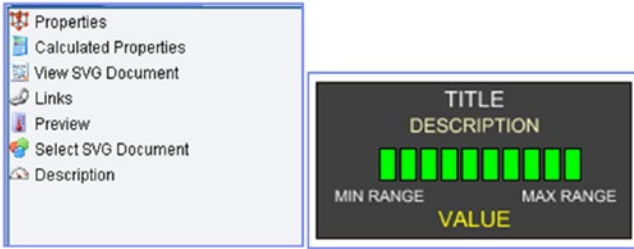

Figure 7-64. Configuration options and an example of an animated object
2. Once an animated object has been created, the various options for configuring it become available in the bottom-left panel of the Workbench, as shown in Figure 7-64.